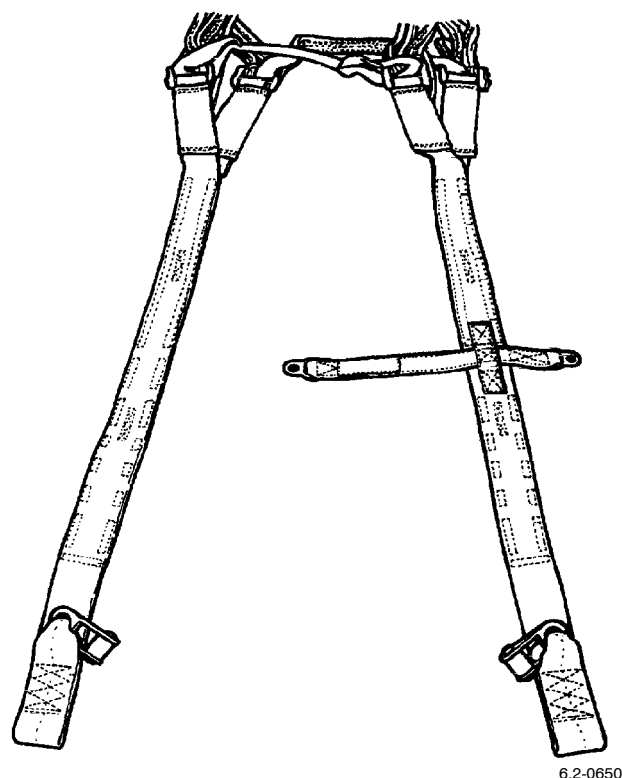

Figure 2. Risers Complete with Steering Lines
(4) Remove the steering line handle from the steering line.
(5) Pull the steering lines back thru the metal guide rings on each front riser until they are clear of the risers.
(6) Remove the lower steering lines from the upper steering lines by disconnecting at the upper steering line metal ring.
b. Loosen the upper right hand (RH) connector link, slide serrated plate forward and remove. Remove old riser. Install new riser ensuring that the inertia reel fitting is facing up and the risers are not twisted (Figure 2). Reinstall serrated plate. Ensure that serrated edge is facing up. Slide serrated plate into locking position. Tighten screw.
c. Loosen the lower right hand (RH) connector link, slide serrated plate forward and remove. Remove old riser. Install new riser ensuring that the inertia reel fitting is facing up and the risers are not twisted (Figure 2). Reinstall serrated plate. Ensure that serrated edge is facing up. Slide serrated plate into locking position. Tighten screw.
e. Repeat step b for the upper left hand (LH) (front) riser, cross-connector strap and suspension lines 6 thru 10.
f. Repeat step c for the lower left hand (LH) (rear) riser, cross-connector strap and suspension lines 1 thru 5.
g. Repeat step d to reconnect the left hand (LH) lower steering line.
i. Apply a torque seal to screwheads. (QA)